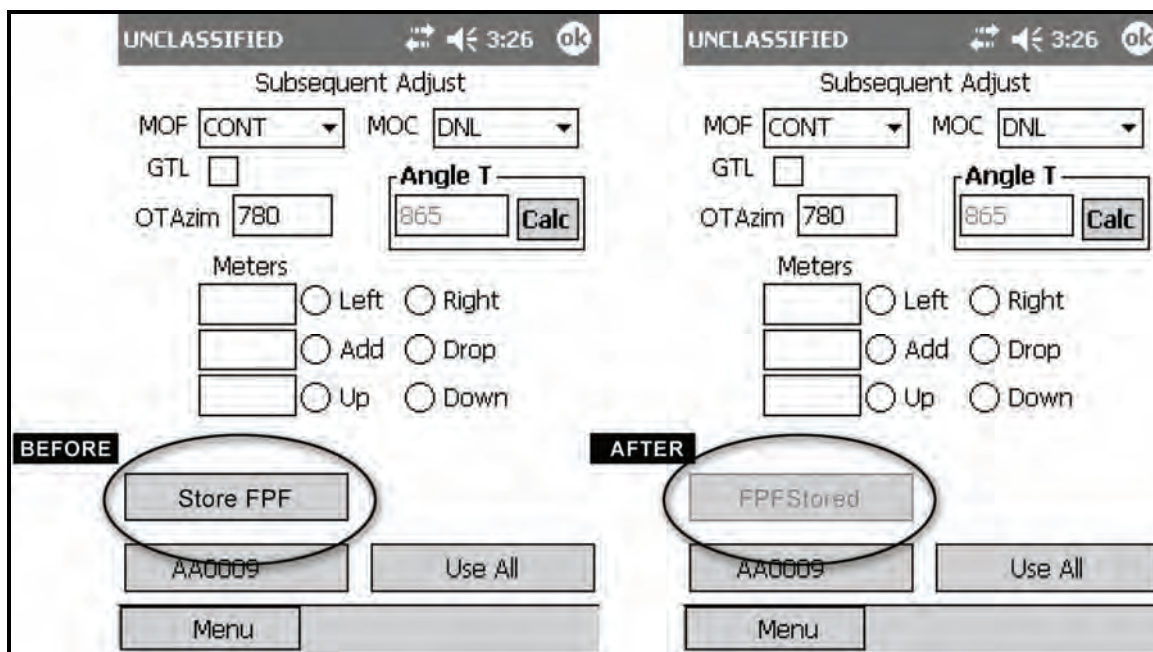

Figure 18-67. Final Protective Fire: storing the final protective fires.
(64) Select Use All.
(65) The Solution/Gun Orders screen displays.
(66) Navigate to the Subsequent Adjust screen (Figure 18-67).